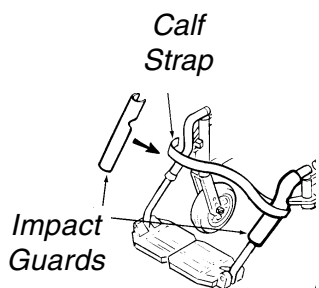

FIGURE 7 - IMPACT GUARDS/OPTIONAL CALF STRAP
IMPACT GUARDS/OPTIONAL CALF STRAP (FIGURE 7)
2. Secure the impact guards to the footrest frame as shown in FIGURE 7.